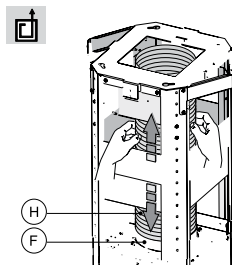
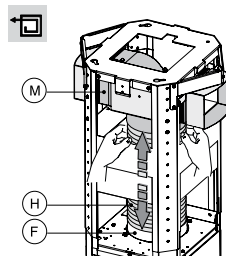
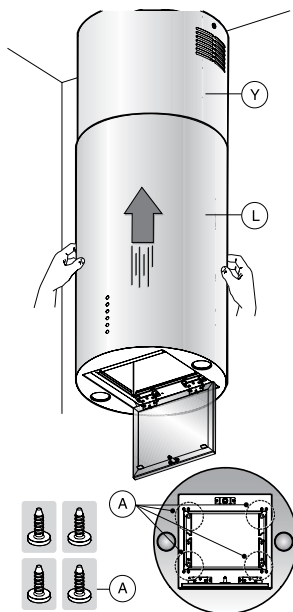

Fig. 12
Fig. 13
Fig. 15
9. Assemble the ventilation duct(H), as shown in the diagrams below dependant on whether you are extracting air to the outside (Fig 12) or re-circulating (Fig 13), in which case you will need to purchase an optional accessory T-piece(M) from CDA. Ensure that the duct adapter (F) is securely connected to the duct pipe or T-piece in order to minimise noise.
10. Separate the two decorative sections and mount the upper section(Y) into position, then fix it to the frame with the 2 supplied screws(X).
11. Carefully slide the lower section (L) over the upper section (Y) and secure into position using the 4 machine screws (A) as shown in Fig 15.